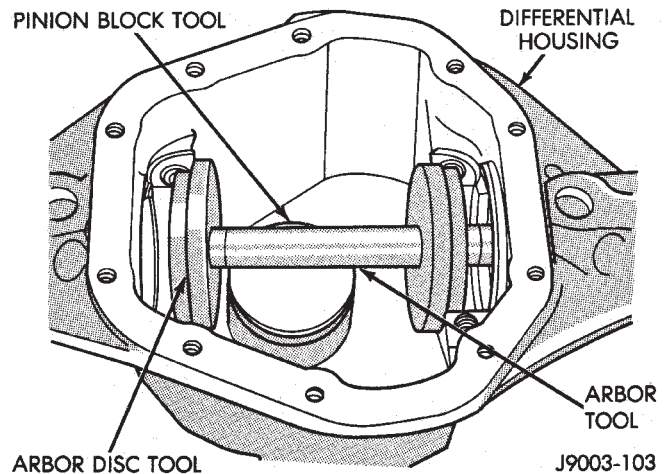

Fig. 48 Gauge Tools In Housing
(2) Place Disc D-115-4 on Arbor D-115-3 and position in the bearing cradles (Fig. 48).